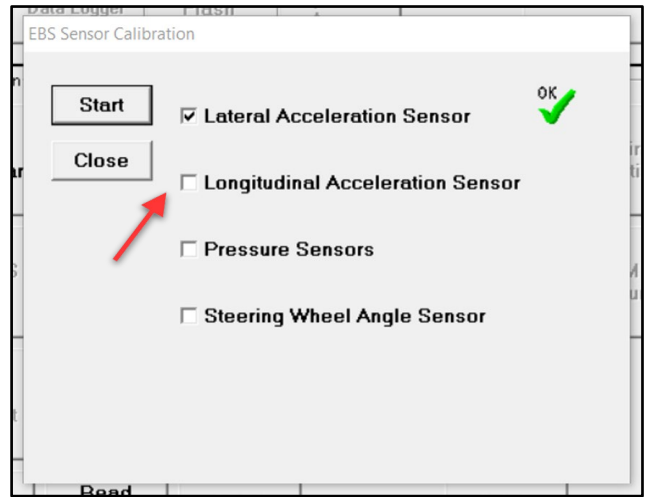

Figure 15
23. Select "Longitudinal Acceleration Sensor" (refer to Figure 15).